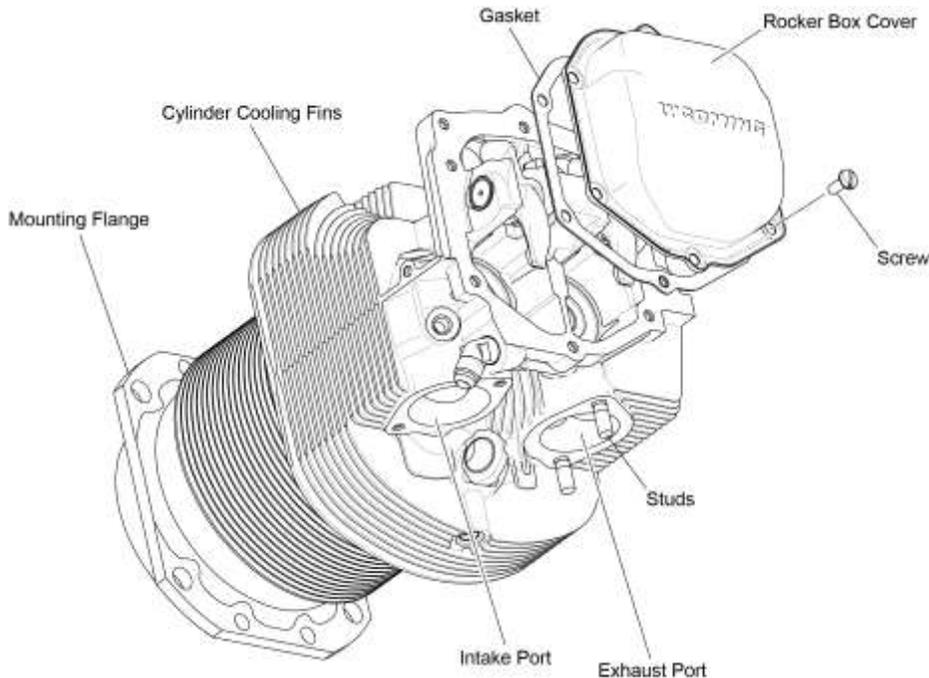

Figure 1
- A. Examine the cylinder and cylinder head (Figure 1) thoroughly for cracks, leaks, rust, pitting and/or damage. Replace a damaged, rusted, pitted, leaky or cracked cylinder per instructions in this chapter.
- D. Look for cracked or broken fins and baffles (Figure 1). If a cooling fin adjacent to the exhaust port flange is cracked, a 3/16 in. diameter hole can be drilled as a stop, under the following conditions:
- (1) There cannot be more than four blended fins on the push rod side of the head, or
- (2) No more than six blended fins on the anti-push rod side of the head.